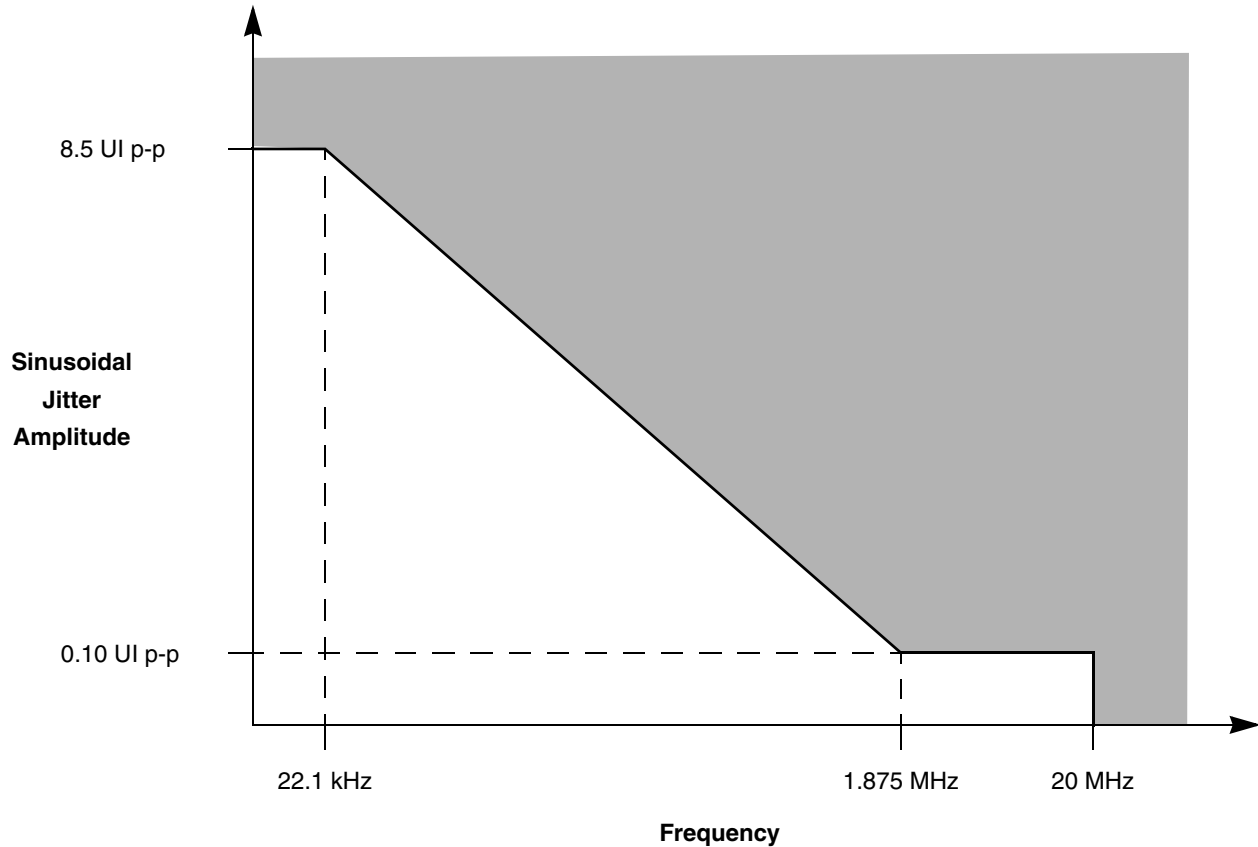

Figure 55. Single Frequency Sinusoidal Jitter Limits
- Total jitter is composed of three components, deterministic jitter, random jitter and single frequency sinusoidal jitter. The sinusoidal jitter may have any amplitude and frequency in the unshaded region of Figure 55. The sinusoidal jitter component is included to ensure margin for low frequency jitter, wander, noise, crosstalk and other variable system effects.